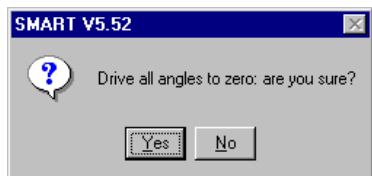

Figure 4-36. Drive all angles to zero
3. Press OK. Then click Goniom > Zero to drive the goniometer angles to zero. The following drive message appears (Figure 4-36).